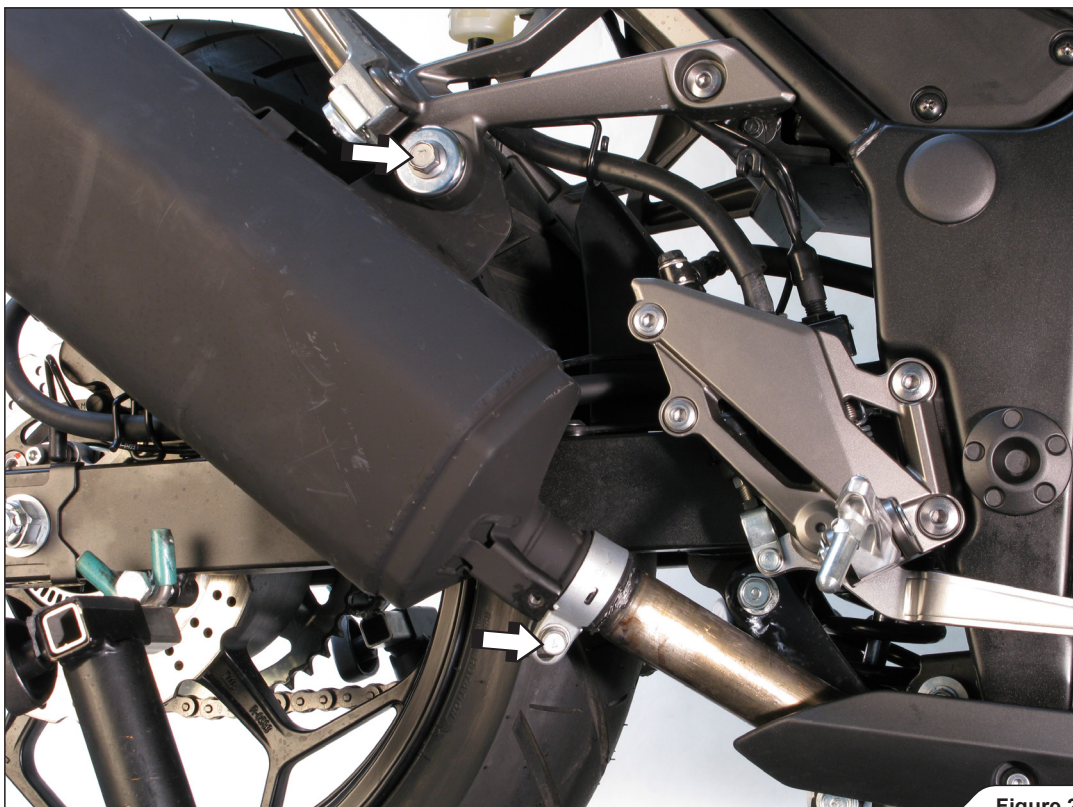

Figure 2
3. Loosen the marked clamp, unscrew the muffler's bracket bolt and carefully remove the muffler off the motorcycle (**Figure 2**).